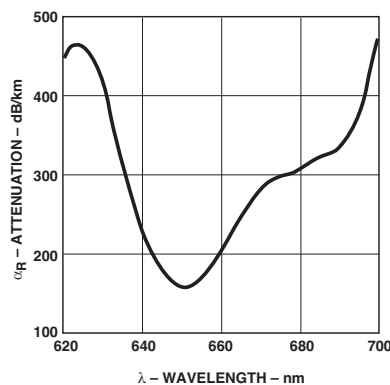

Figure 1. Typical POF attenuation vs. wavelength.
7. Note that αR rises at the rate of about 0.0067 dB/°C, where the thermal rise refers to the LED temperature changes above 25°C. Please refer to Figure 1 which shows the typical plastic optical fiber attenuation versus wavelength at 25°C.